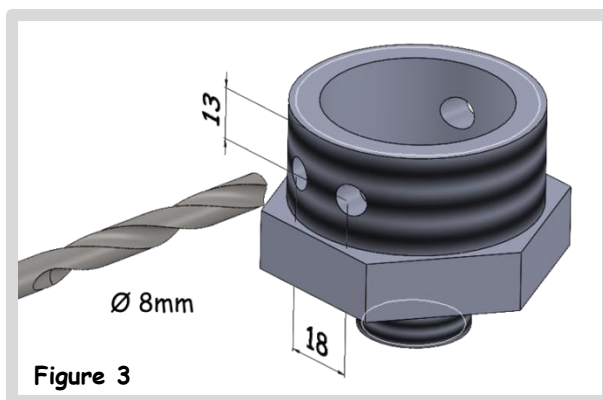

Figure 3
1. Drill two holes in the *PP reducer 2" to 3/4"* according to Figure 3.